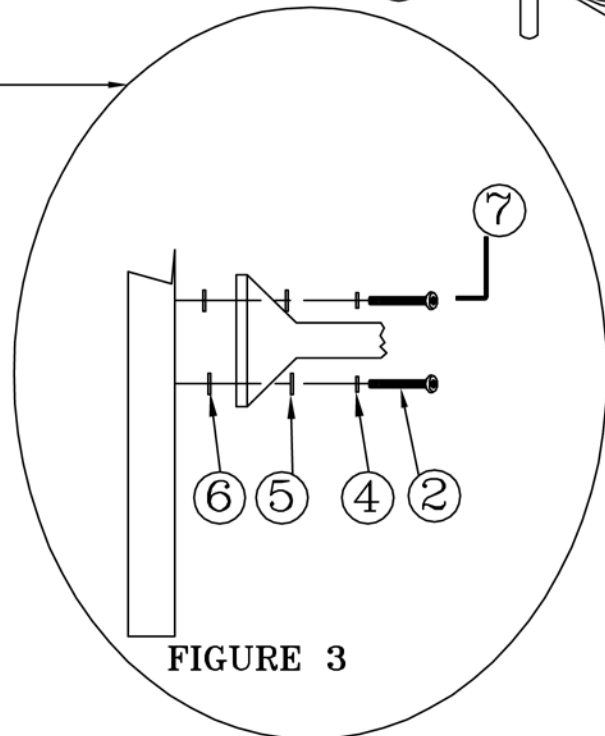

FIGURE 3
- For each post use 2 screws (2), 2 lock washers (4), 2 metal washers (5) and 2 rubber washers (6). Loosely tighten (See Figure 3)